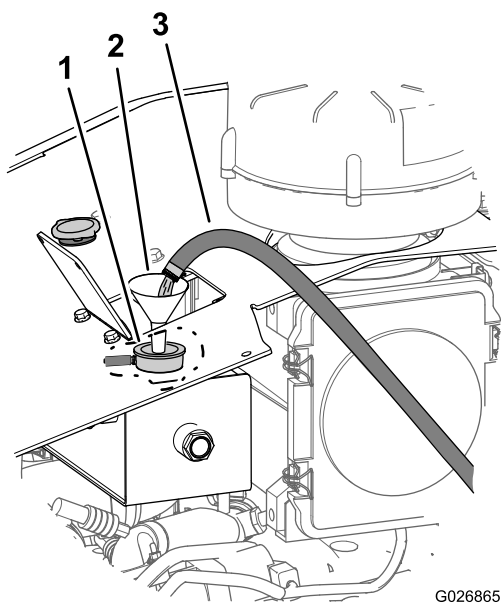

Figure 109
- A. Fill the cooling system with clean water (Figure 109).